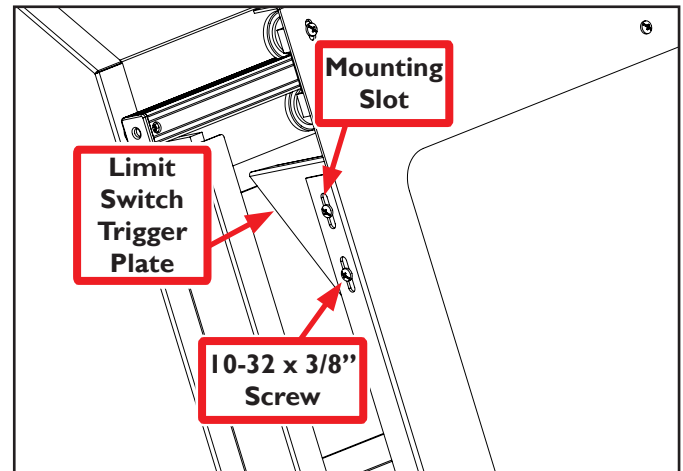

Figure 28
1. Open Door as shown in **Figure 28**. Using two 10-32 x 3/8" Screws, install Limit Switch Trigger Plate to Door (see **Figure 28**).
NOTE: Initially, position the Limit Switch Trigger Plate in the middle of the Mounting Slots to allow for adjustment (see **Figure 28**).